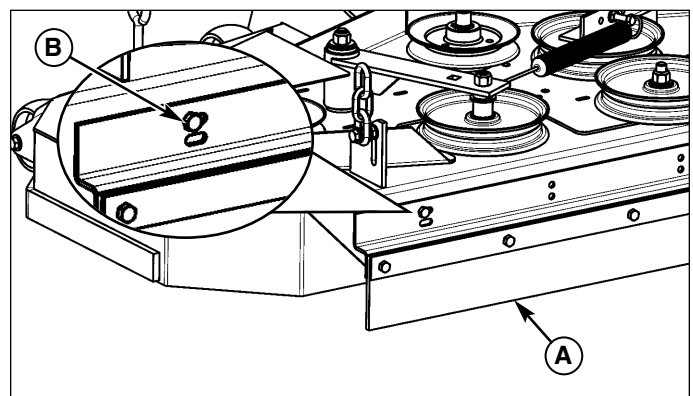

Figure 3. Install Striper Assembly
6. Install the striper assembly (A, Figure 3) onto the rear of the mower deck. Secure the assembly using two 5/16-18 x 3/4" bolts and 5/16-18 nylock flange nuts (B) in the outer holes, through the existing holes in the mower deck.